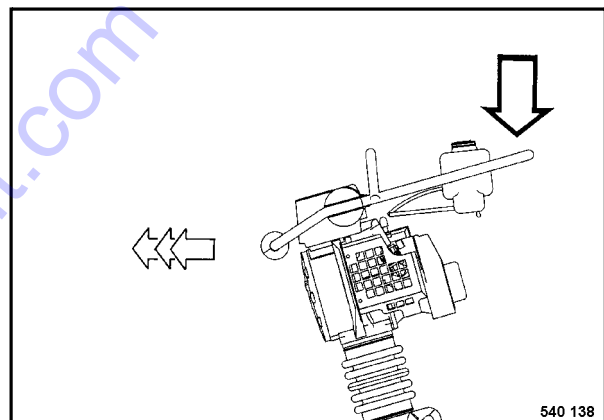

Fig. 4
- The travel speed can also be influenced by varying the pressing force on the steering bow (Fig. 4).